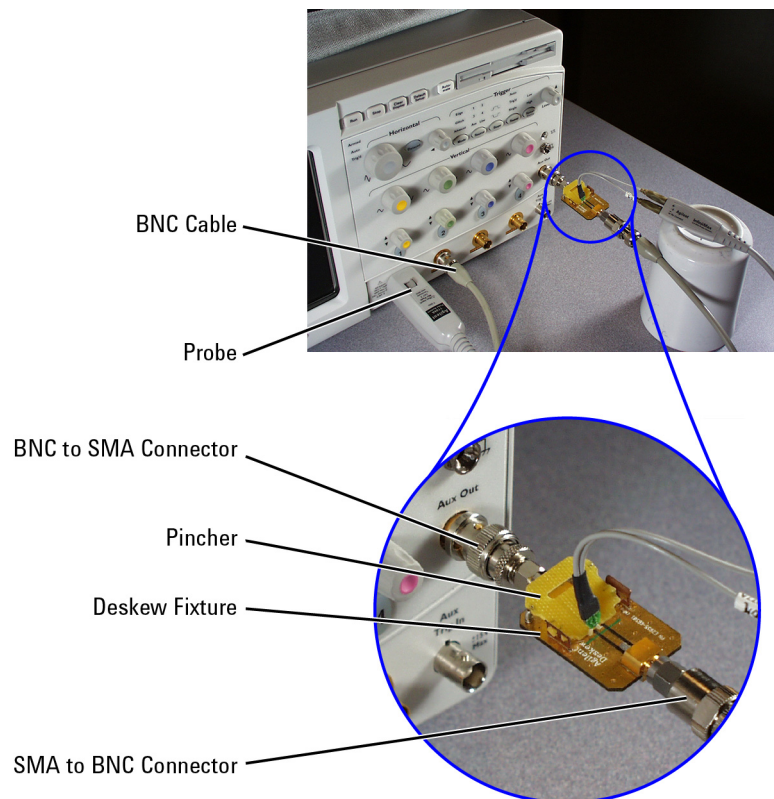

Figure 110 Connecting the Probe
- 1 As shown in **Figure 110** on page 133, connect BNC (male) to SMA (male) adapter to the deskew fixture on the connector closest to the yellow pincher.